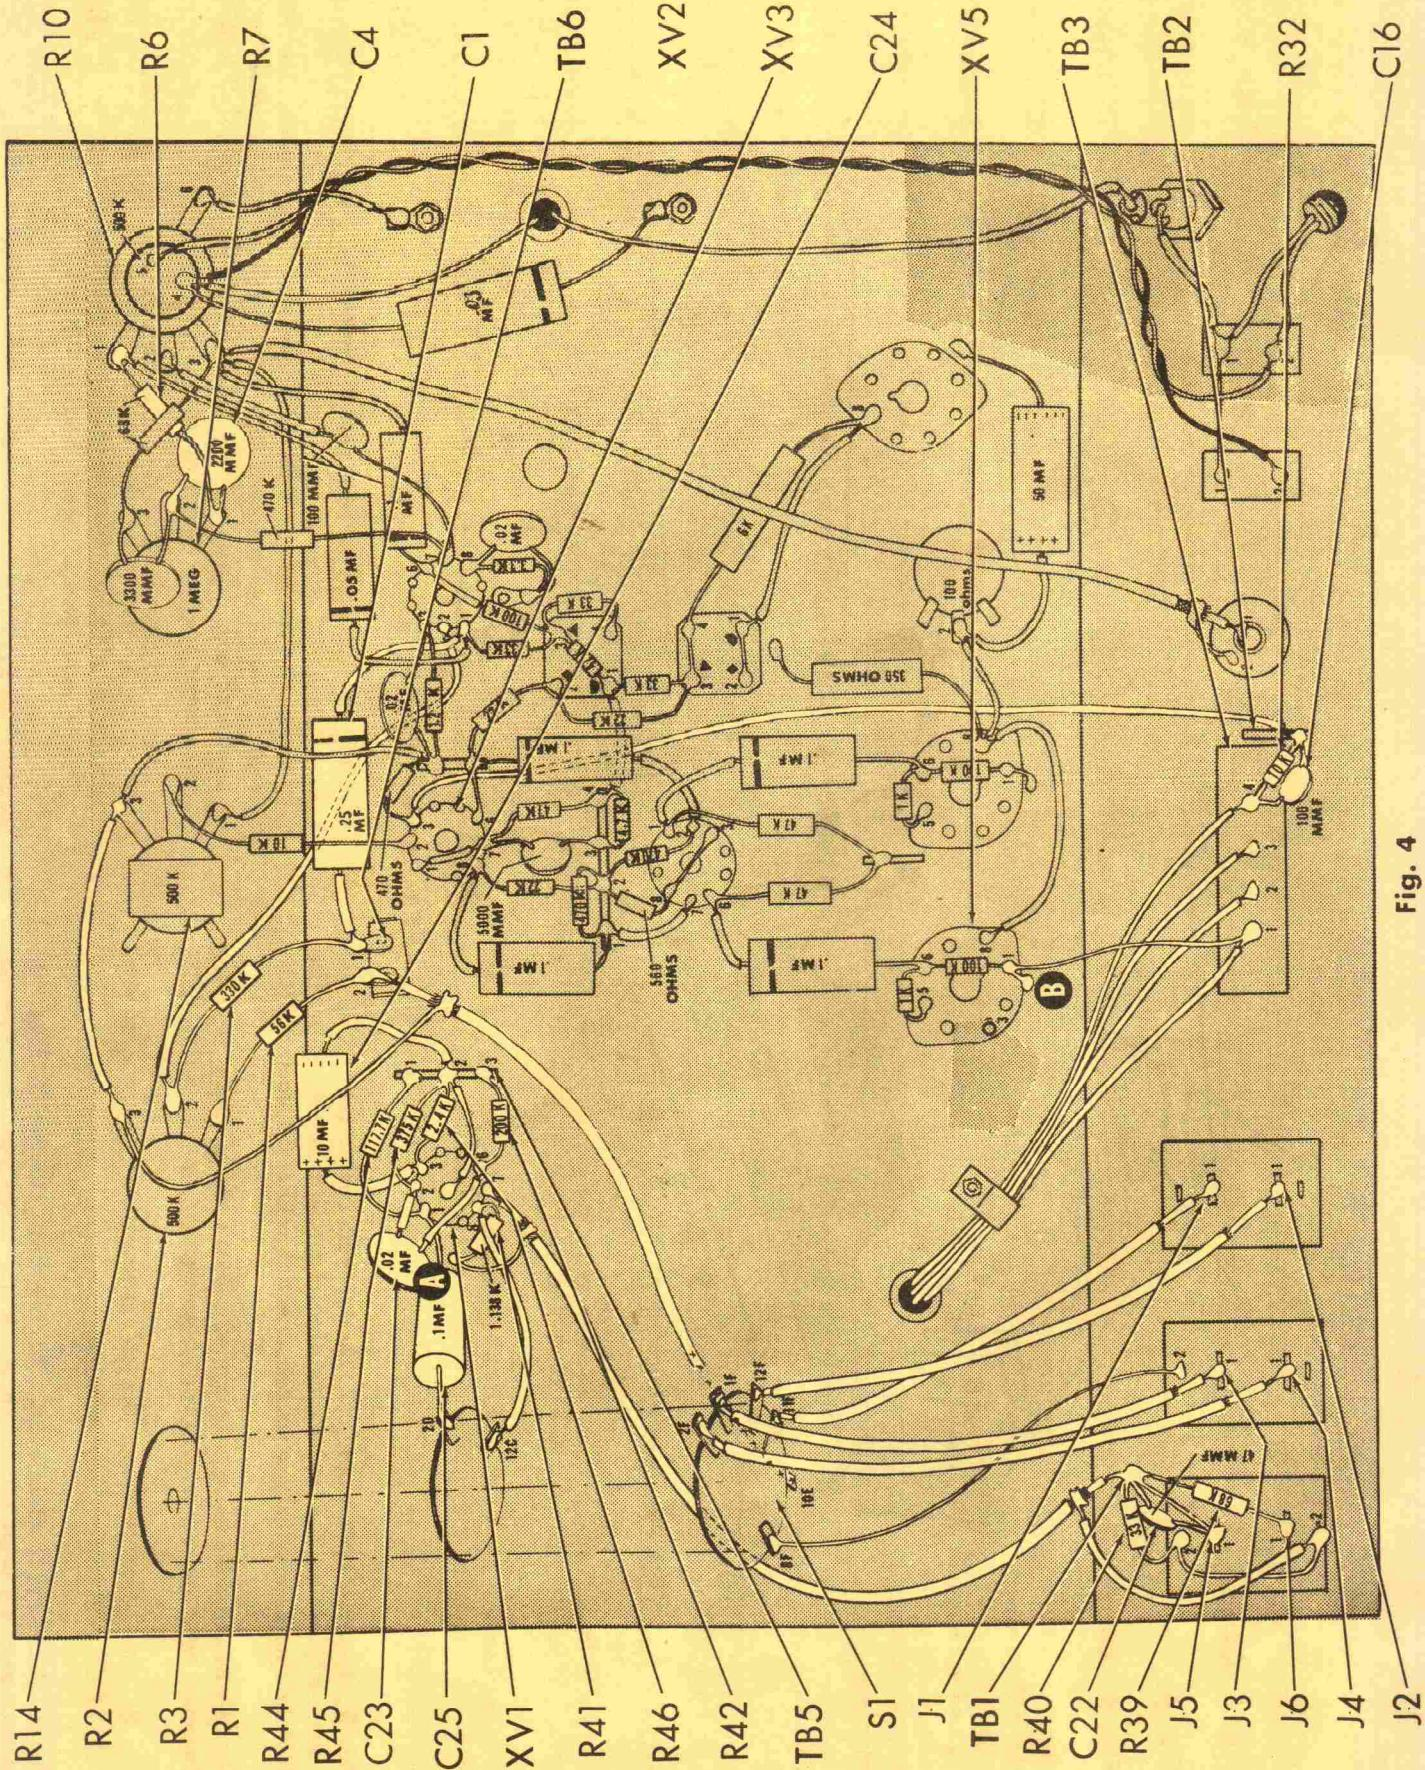

Fig. 4
- () Fig. 3. Mount two dual input jacks, J1-2, and J3-4. Use four #6-32 screws, four #6 hex nuts and four #6 lockwashers with each. Do not use any insulating bakelite or terminal strips (Fig. 4).
- () Fig. 4. Connect a 33K 20% resistor, R40, from J5-2 (C) to TB1 (C).
- () Fig. 4. Connect a 2" black lead from J5-2 (S) to J6-2 (C).
- () Fig. 4. Connect a 47 mmf capacitor, C22, from J5-1 (C) to TB1 (C).
- () Fig. 4. Connect a piece of bare wire from J5-1 (S) to TB1 (C).
- () Fig. 4. Connect a 68K 20% resistor, R39, from J6-1 (S) to TB1 (C).
- () Fig. 4. Cut a 7" piece of shielded cable. On both ends, the outer insulation is stripped back 1", the braided shield is stripped back 3/4" and the inner insulation is stripped back 3/8". Wrap one turn of a 3" piece of bare wire around each end of the braided shield and solder. Connect the inner lead of one end to TB1 (S), and the inner lead of the other end to XV1-7 (S). Connect the bare wire at one end (covered with spaghetti) to J6-2 (S), and the other bare wire to ground lug "A" (C).
- () Fig. 4. Mount the switch, S1, as shown. Use two 3/8" nuts, one 3/8" lockwasher and one 3/8" flatwasher (Fig. 3).
- () Fig. 4. Connect the bare wire from S1-8F to J3-2 (S).
- () Fig. 4. Connect the four ends "A" of the shielded cables from S1 as follows:
- 1F to J3-1 (S)
- 1IF to J1-1 (S)
- 2F to J4-1 (S)
- 12F to J2-1 (S).
- () Fig. 4. Connect the black lead from the output transformer, T2, to TB3-1 (C).
- () Fig. 4. Connect the slate lead from T2 to TB3-2 (S).
- () Fig. 4. Connect the green lead from T2 to TB3-3 (S).
- () Fig. 4. Connect the yellow lead from T2 to TB3-4 (C).
- () Fig. 4. Connect one end of a bare wire to TB3-1 (S). Pass the other end thru XV5-1 (C) and connect to ground lug "B" (S) on XV5.
- () Fig. 4. Connect a 10K resistor, R32 and a 100 mmf capacitor, C16, from TB3-4 (S) to TB2 (C).
- () Fig. 4. Connect an 10" black lead from TB2 (S) to XV3-3 (C). Run the lead along the chassis as shown.
- () Fig. 4. Connect a 1.138K resistor, R41, from XV1-8 (C) to ground lug "A" (S).
- () Fig. 4. Connect the blue lead from S1-12C to XV1-8 (S).
- () Fig. 4. Run the free end of C25 under R41 and connect to XV1-1 (C). The capacitor should be perpendicular to the chassis. Use spaghetti.
- () Fig. 4. Connect a 117.7K resistor, R44, from XV1-1 (S) to TB5-1 (S).
- () Fig. 4. Connect a 375K resistor, R45, from XV1-2 (C) to TB5-2 (C).
- () Fig. 4. Connect a 200K resistor, R42, from XV1-6 (C) to TB5-3 (S).
- () Fig. 4. Connect a .02 mfd GMV capacitor, C23, from XV1-6 (S) to XV1-2 (S). Use spaghetti.
- () Fig. 4. Connect a 2.4K resistor, R46, and a 10 mfd capacitor, C24, from XV1-3 (S) to TB5-2 (C). Note that the negative lead goes to ground (TB5-2).
- () Fig. 4. Connect a short piece of bare wire covered with spaghetti from the center shield post of XV1 (S) to TB5-2 (S).